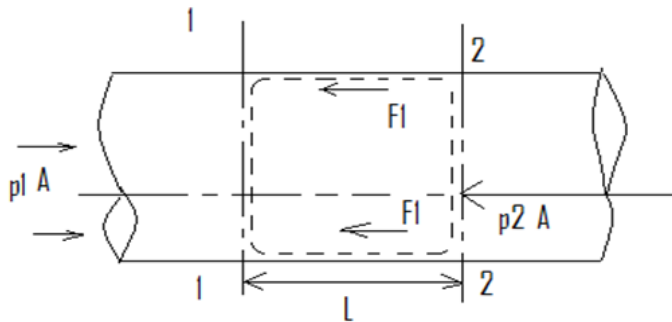

Fig 1: Uniform horizontal pipe
- Frictional force F_1 as shown in Fig. 1.